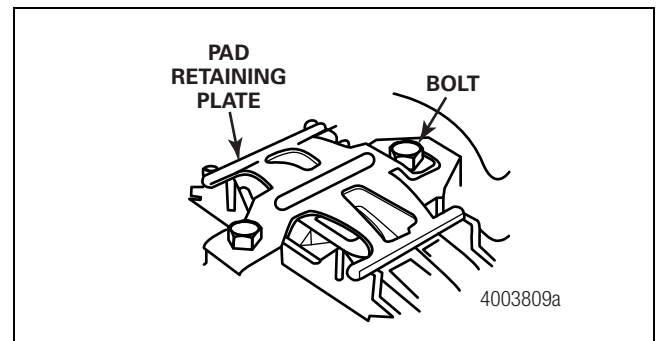

Figure 3.1
3. Remove the pad retaining plate bolt and remove the pad retaining plate. Figure 3.1.